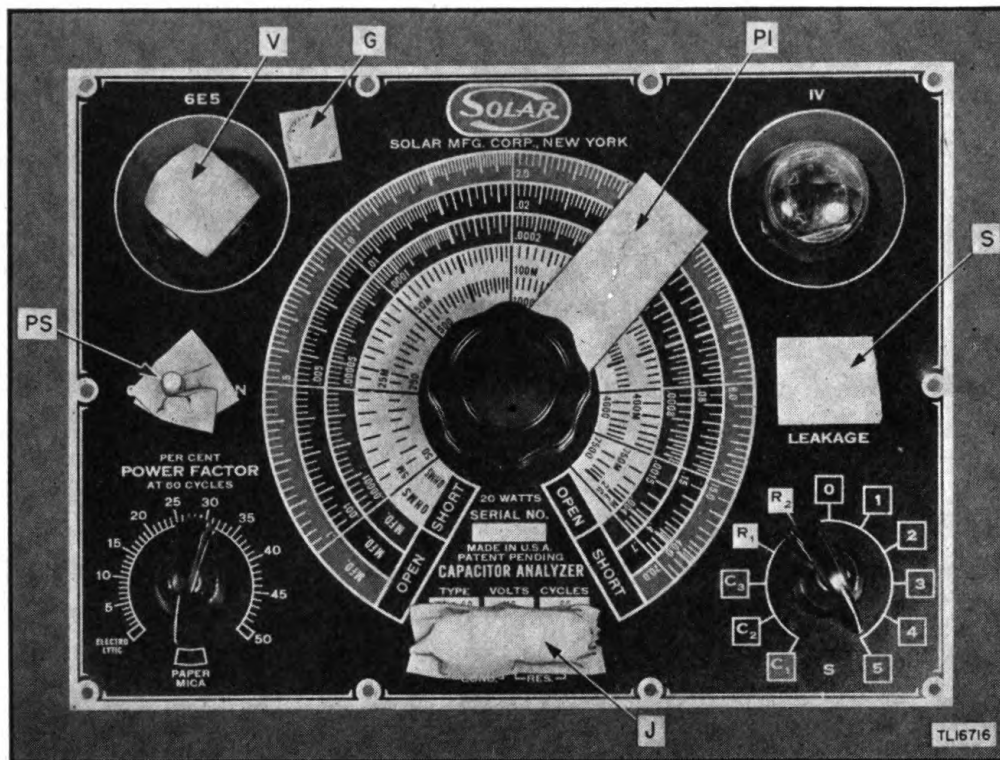

Fig. 9. Front of set, masked for moistureproofing and fungiproofing
Remove the capacitor leakage indicator lamp from the socket (S, fig. 9).
- A.C. power switch (PS, fig. 9).
- Capacitor leakage indicator lamp socket (S, fig. 9).
- Clear plastic indicator of main dial (P1, fig. 9).
- Three test lead jacks (J, fig. 9).
- Top of 6E5 tube (V, fig. 9).
- Rubber grommet (G, fig. 9).